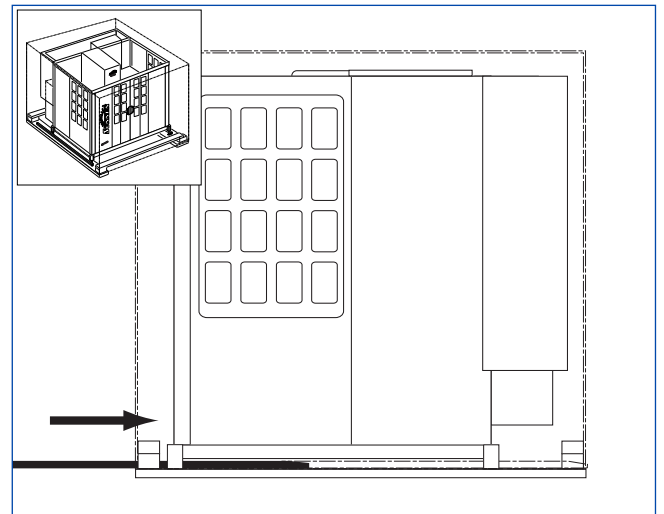

FIGURE 1-2, Fork Lift
7. Using a forklift remove machine from skid and move to desired location and lower into place (see Figure 1-2).